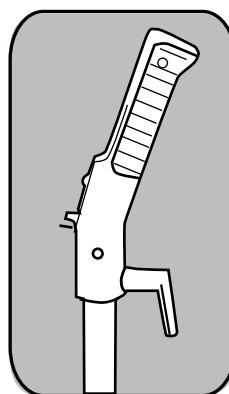

Fig. 3
1. The upper cord storage hook has a quick-release action. To release the cord, rotate the hook downward and the cord will drop off the handle for immediate use (Fig. 3).